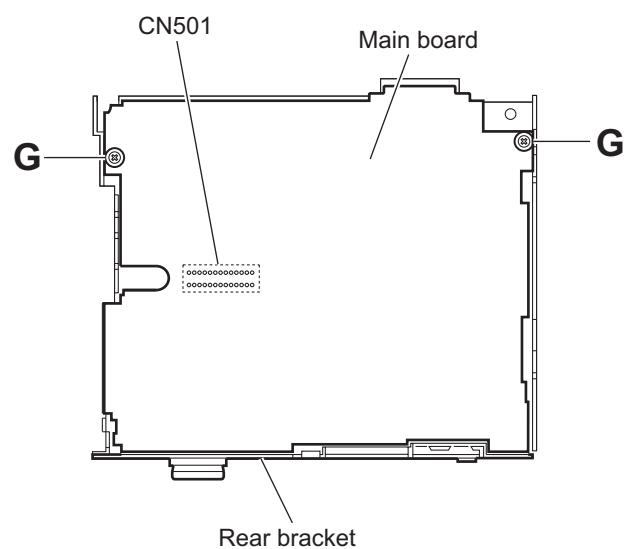

Fig.6
- (2) Remove the two screws **G** attaching the main board on the bottom side of the main body. (See Fig.6.)
- (3) Disconnect the connector **CN501** on the main board from the CD mechanism assembly and take out the main board with the rear bracket. (See Fig.6.)